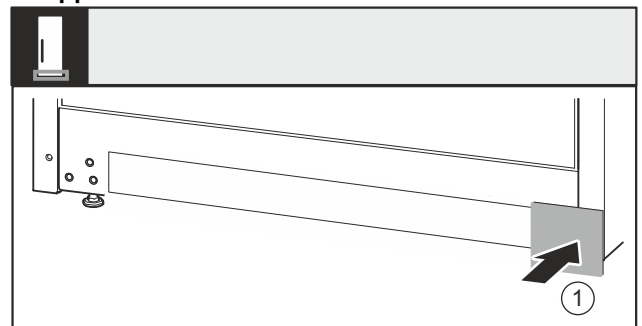

Fig. 30
- ▶ Re-attach the cover Fig. 30 (1) on the other side.